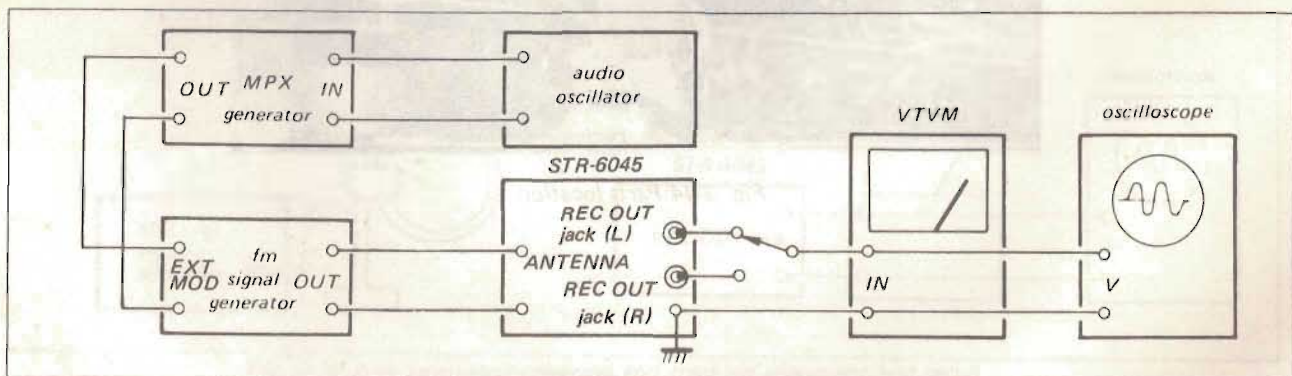

Fig. 3-13 Stereo separation adjustment test setup
1. Connect the equipment as shown in Fig. 3-13. Set the fm signal-generator's control as follows:
- (a) With the equipment connected as shown in Fig 3-13 set the MPX stereo generator controls as follows: